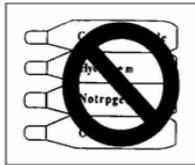

Fig 2
2. Never use oxygen, combustible or any other bottle gas as a power source this could would cause explosion and serious personal injury. (see fig 2)